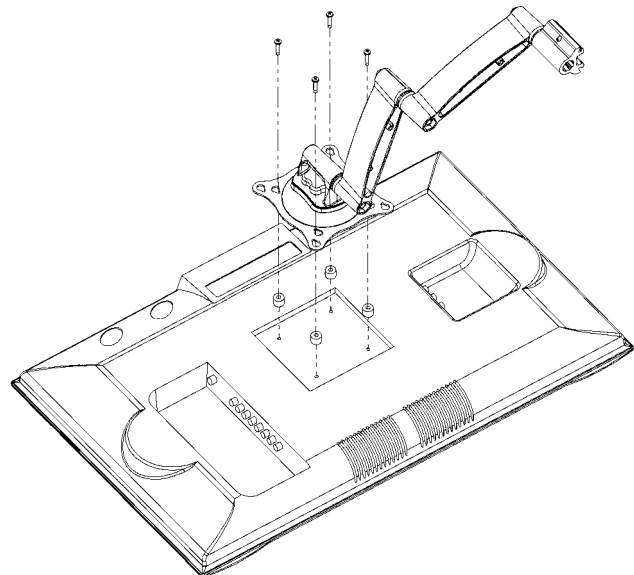

Figure 6. Recessed Mounting
- A. Place four 1/2" X 3/8" Nylon spacers or four 1/2" X 3/4" Nylon spacers, as necessary, over the mounting holes of your display (see Figure 6).